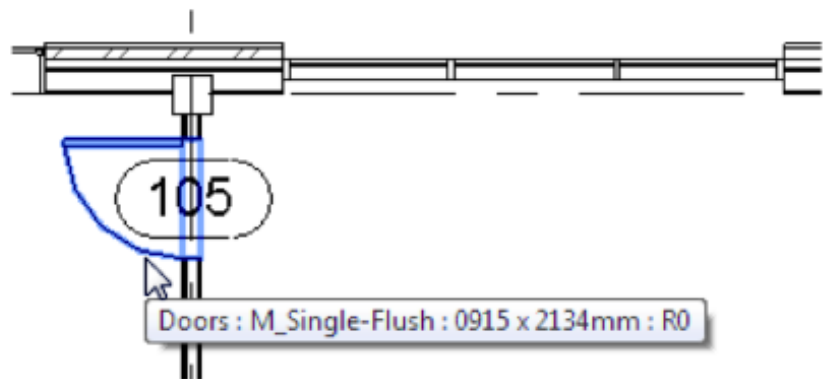

Figure 1–53
7. In the drawing window, hover the cursor over one of the doors. A tooltip displays describing the element, as shown in Figure 1–53.